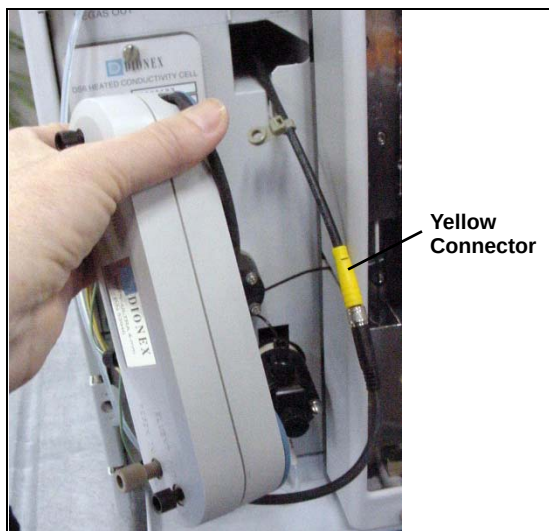

Figure 5-17. Removing the Suppressor
6. Continue pulling the suppressor out until the yellow connector on the cable inside the ICS-1500 is outside the panel (see Figure 5-17).